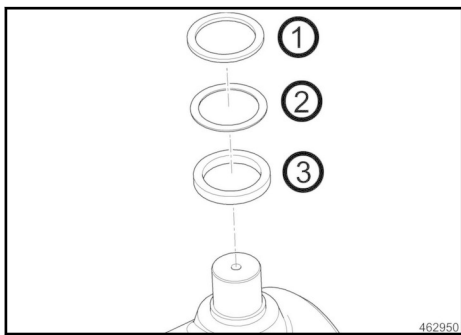

Fig. 187
2. Remove supporting discs 1 ↗ Fig. 187, shims (2) and seal rings (3) from both sides.